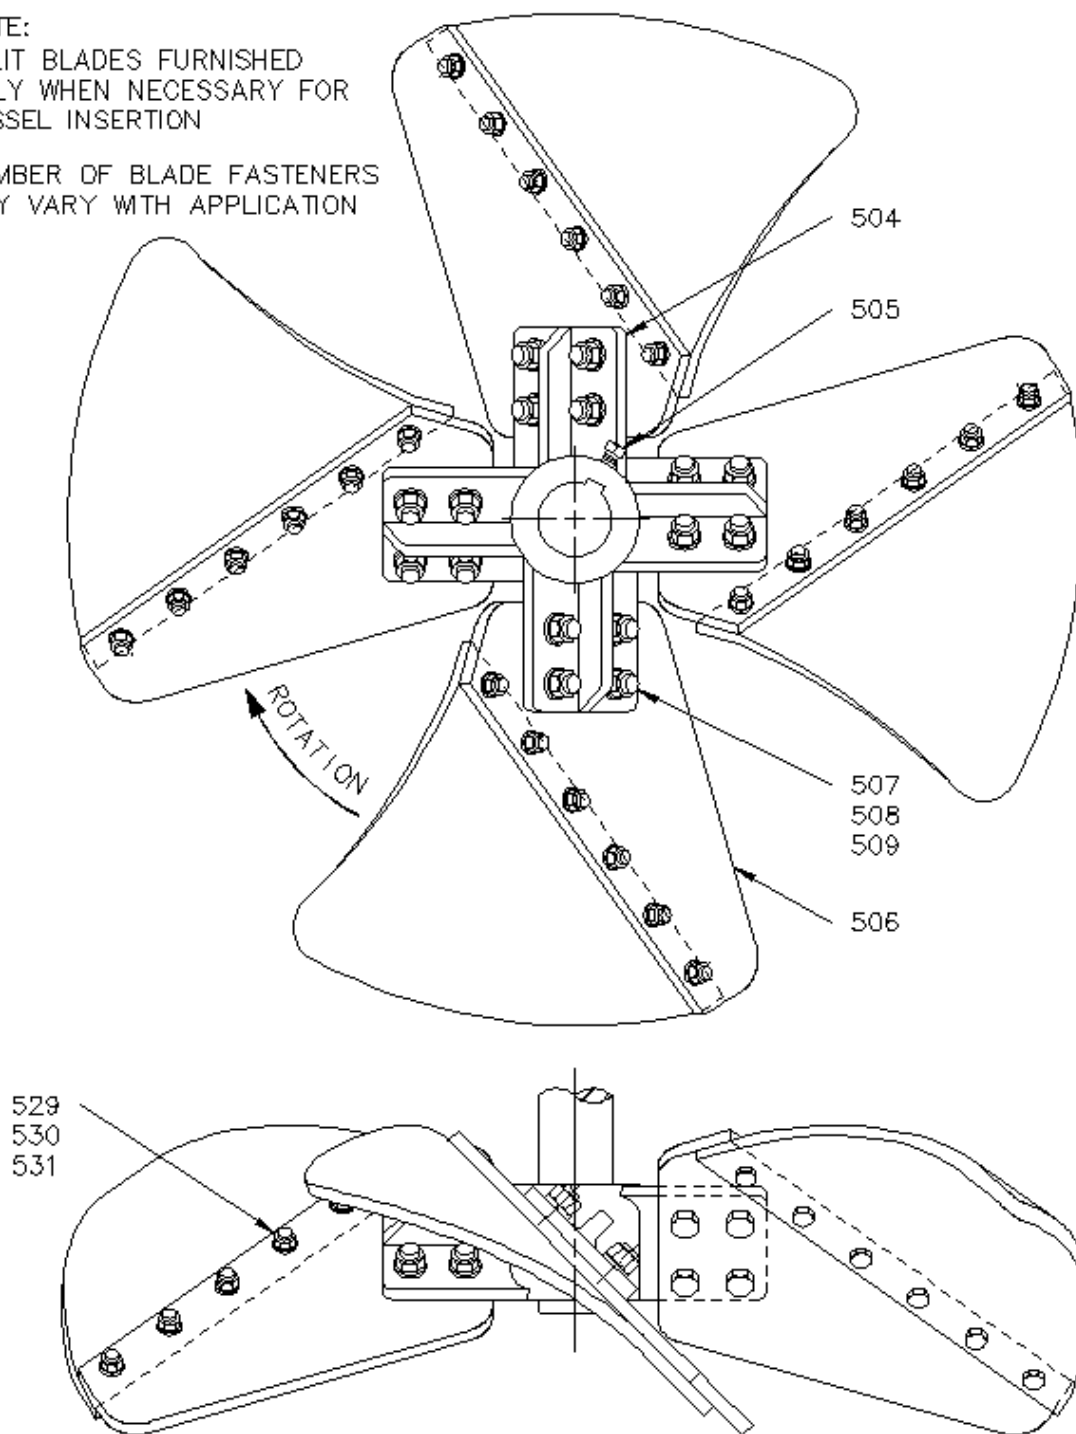

Figure 25. Style Maxflo W Impeller
4. Bolt extension blades [506] to the hub [504] with bolts, nuts and lockwashers [507, 509, 508]. Refer to Figure 20 to Figure 25, page 41 to 47. Bolt split blades, if furnished, to extension blades with bolts, nuts and lockwashers [529, 531, 530]. Bolt stabilizer fins [510], if furnished, to extension blades with bolts, nuts, and lockwashers [511, 513, 512]. Torque bolts to the value shown in APPENDIX, Page 105.